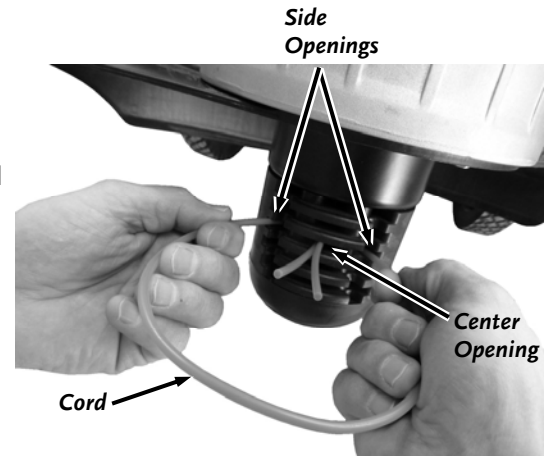

Figure 17
1. Insert the ends of the Cord into the side openings in the Line Plate (**Figure 17**).